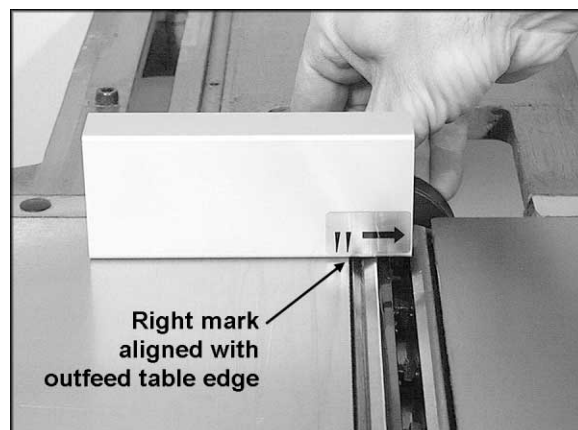

Figure 29
7. An aluminum knife setting gauge, shown in Figure 29, is provided with the jointer. If you require very fine tolerances when setting the knives, a knife setting gauge with a dial readout can be purchased (see "Optional Accessories" on page 32). The provided aluminum gauge should, however, be accurate enough for most woodworking needs.
8. Place the provided knife setting gauge at the back of the outfeed table (toward the fence support side) and extending over the cutterhead as shown in Figure 29. Place the gauge so that the right mark lines up with the edge of the outfeed table, as shown.